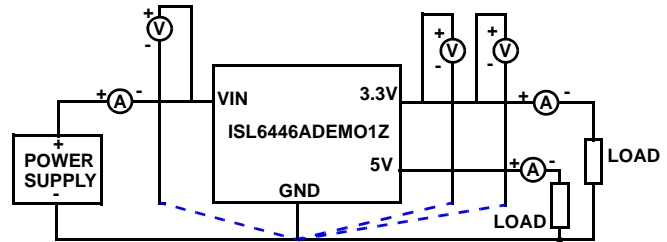

FIGURE 4. CONNECTION DIAGRAM
Using short twisted pair leads for any power connections and with all loads and power supplies off, refer to Figure 4 for the proper measurement and equipment setup. The Power Supply (PS) should not be connected to the circuit until told to do so in the following procedure.
2. Connect the power supply; electronic load; voltage and current meters like Figure 4 shows while keeping the power supply and load shut down.